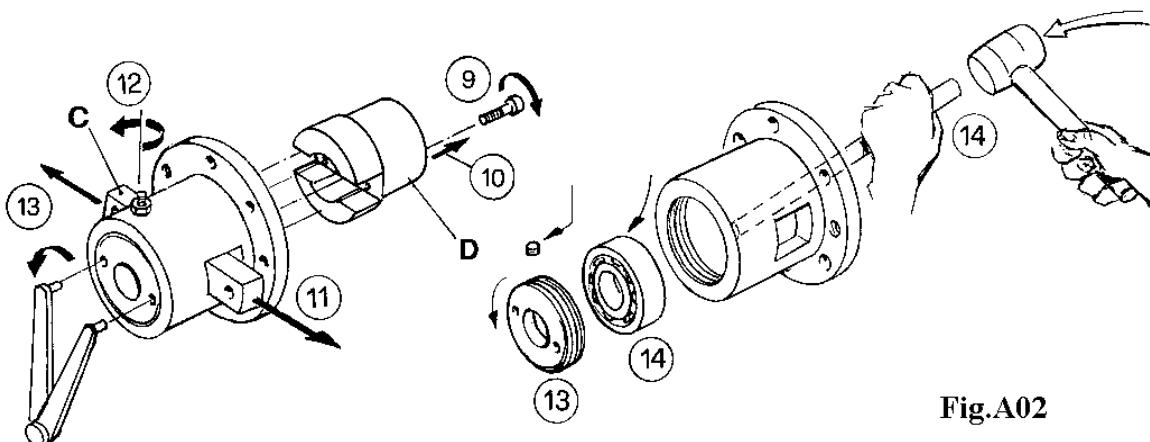

Fig.A02
**09** - Loosen and remove the screws locking the stuffing box to the draggers (C). (Fig. A02)
**10** - Take the stuffing box off (D). (Fig. A02)
**11** - Extract the draggers from the two side holes (Fig. A02)
**12** - Slacken the nut and the locking dowel of the adjustment ring (Fig. A02)
**13** - Unscrew the ring nut and, if necessary, the thread protection shim (Fig. A02)
**14** - Drive the bearing out from inside striking with a hammer and a punch (preferably in aluminium) (Fig. A02)